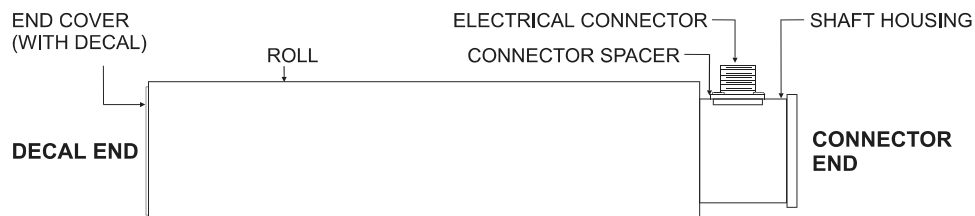

Figure 18 - NWI TRANSDUCER PARTS
4.2 DISASSEMBLY AND RE-ASSEMBLY (Ref. Fig. 18)